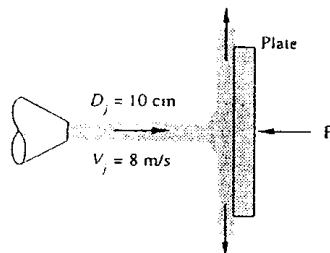

Fig. P3.40
- 3.40** The water jet in Fig. P3.40 strikes normal to a fixed plate. Neglect gravity and friction, and compute the force  $F$  in newtons required to hold the plate fixed.